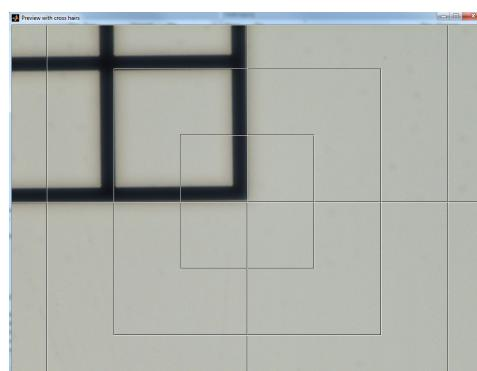

Figure 2
6. Use your hand to adjust the camera to make the reticle in camera image just touch the same boundary of the grid corner. (*Figure 2*)